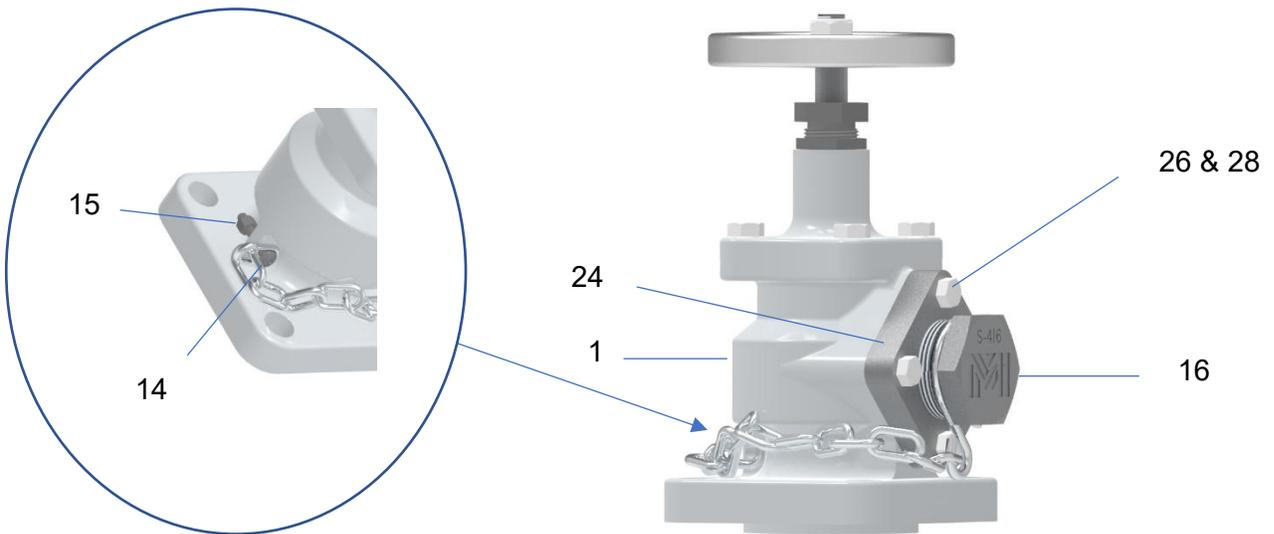

Figure 18
11.55. Refer to Figure 18.
- 11.61. Attach the chain of the plug and chain (16) to the body (1) as shown in Figure 18 using machine screw (14) and locknut (15). Tighten the locknut until at least three threads of the machine screw (14) are visible past the top of the locknut (15).